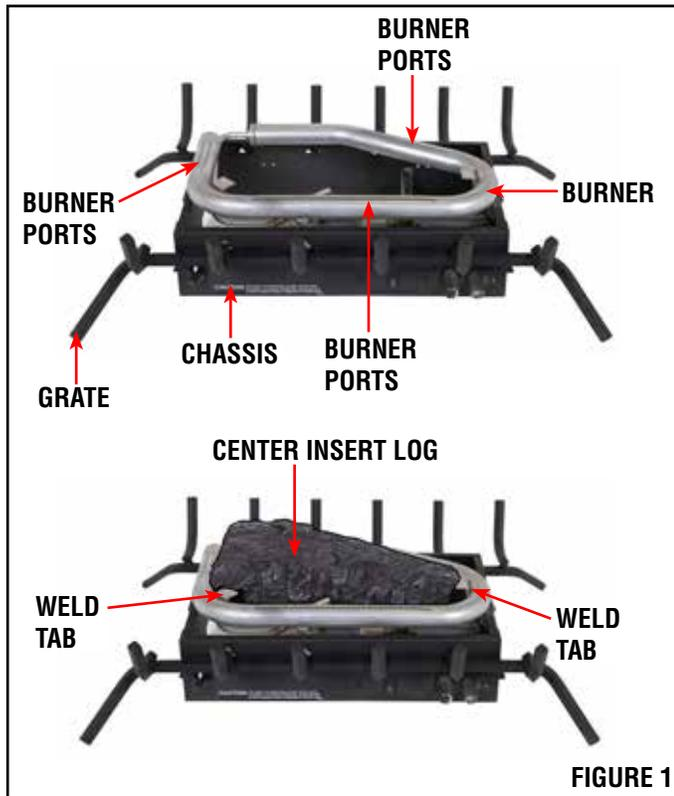

FIGURE 1
1. Place center insert log by sitting log on the two weld tabs located on the burner. The rear of the center insert log will rest on burner (see *Figure 1*).